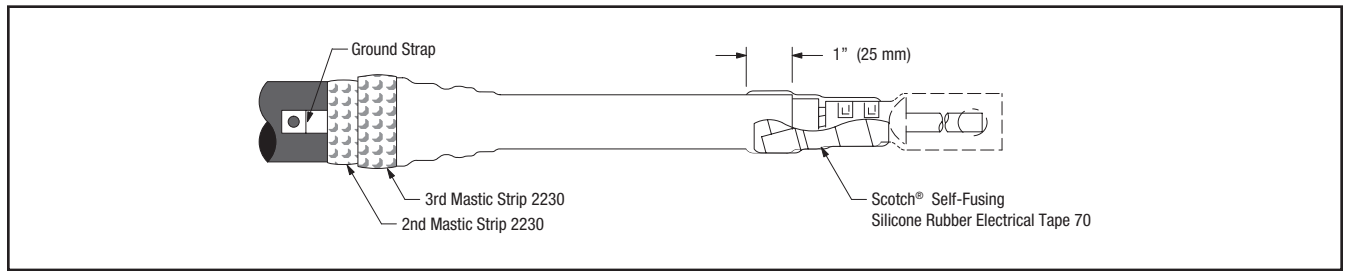

Figure 15
- Select second Scotch® Mastic Strip 2230 from kit and remove white release liners. Using light tension, apply a **SINGLE WRAP** of mastic over previously applied mastic. Add another **SINGLE WRAP** of mastic adjacent to the second wrap of mastic that was just applied, directly on top of the termination body (Figure 15). Cut off excess.